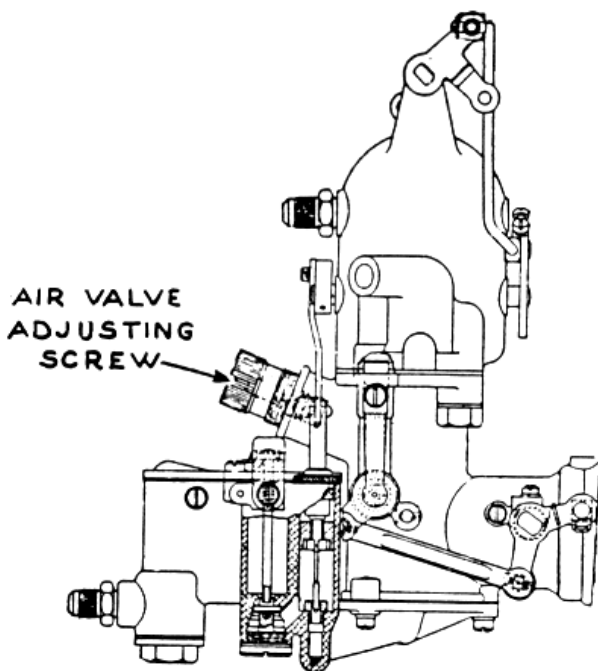

Fig. 10
An adjustment for seasonal control of heat also is provided on the damper valve lever (J), Fig. 10, whereby the amount of exhaust heat deflected by the damper to the elbow jackets may be decreased by moving damper adjusting stud (L) in damper connecting rod (K) from hook-up hole in damper lever marked "Warm" to hook-up hole marked "Medium", or to hook-up hole marked "Cool", thus initially opening damper valve at closed throttle positions and greatly reducing the heat application.